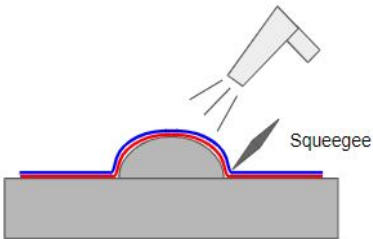

Fig.12
- 3) Press the vinyl down hard around the rivet using a plastic squeegee and a hot air gun. The applied temperature should be between 45 and 60°C . *Fig.12*